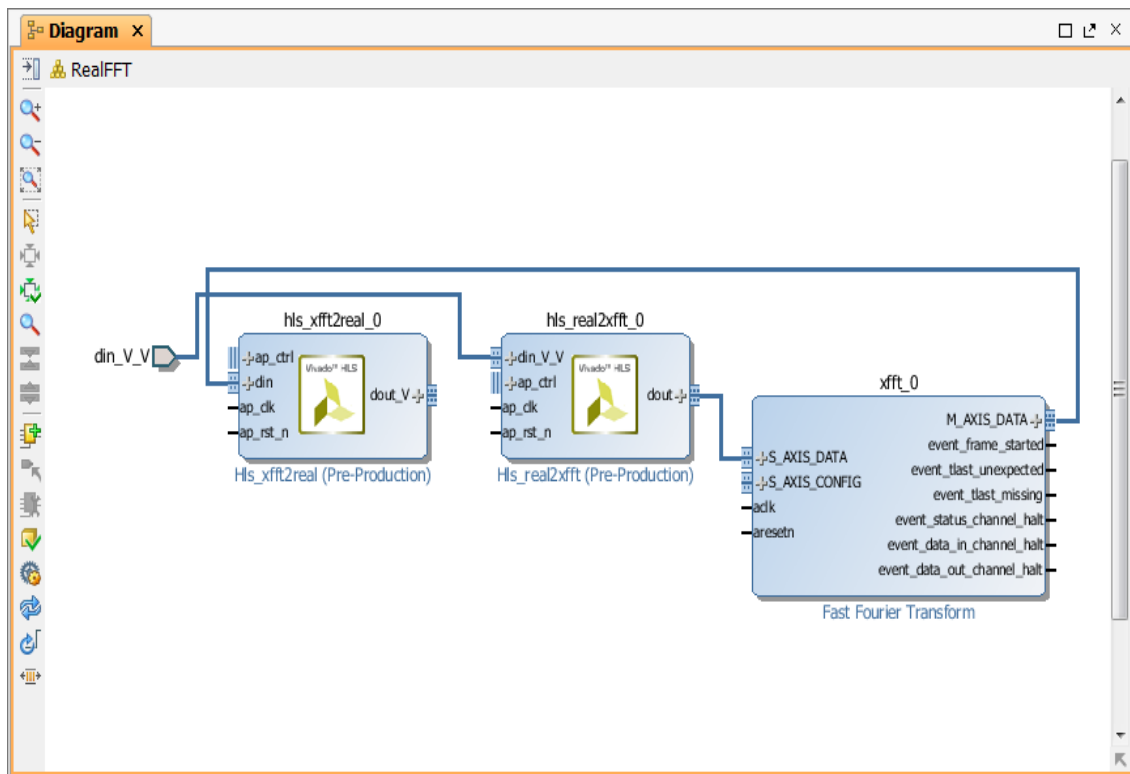

Figure 9-18: Make External Connections
10. Right-click the `din_V_V` interface connector on the `hls_real2xfft` block and select **Make External** (Figure 9-18).